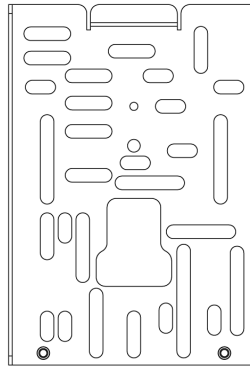

Figure 4. Universal Wall Bracket
3. Adjust the Universal Wall Bracket against the old thermostat position, such that any two slots on the wall bracket match the existing two screw holes on the wall, and the large center opening is aligned with the air tube(s). The Universal Wall Bracket is shown in Figure 4.